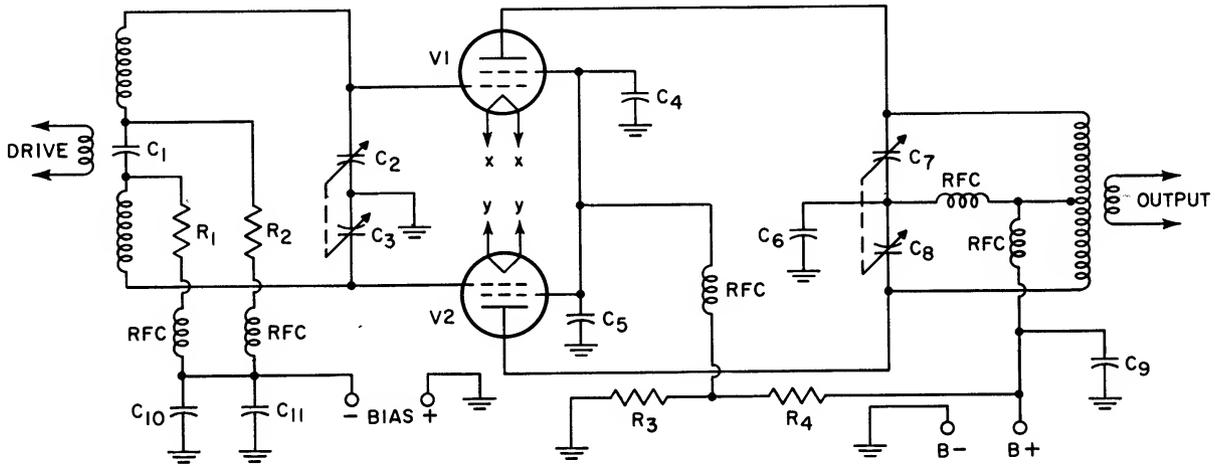

Figure 3. A transmitter final amplifier circuit.
While the transmitter circuit shown in Figure 3 may differ considerably in design from those found in many ham rigs, the measurement techniques and precautions described for it apply to all transmitter amplifiers. In all high-power equipment, checking and adjustment of ac filament voltages is especially important to tube life and performance. Grid-bias voltages are equally important because they have a direct effect upon the screen and plate dissipation of the tube under key-up conditions. The value of the grid-bias voltage also affects drive requirements and sets the operating level (class of operation) of the amplifier. In tetrodes, screen voltages should be carefully adjusted to insure that screen dissipation is kept within proper limits under both key-up and key-down conditions. Plate voltages, as well as plate current, should be determined exactly when the operating level borders on the legal input-power limit or the maximum permissible ratings for the tube type.
In setting up an rf amplifier for the first time, use the VoltOhmyst to make precautionary measurements before applying plate and screen voltages. When checking out a high-power amplifier, such as that shown in Figure 3, use the following procedure: (1) Apply filament and grid-bias voltages. Remove excitation. (2) Set up the VoltOhmyst for ac-voltage measurements. Check the filament voltage of each tube directly at the filament pins (xx) and (yy) by connecting the ground cable to one pin and the ac probe to the other pin at the same tube socket. Filament voltage should be within at least $\pm 5\%$ of the recommended voltage for the tube type. (3) If the voltage measured at either filament is off by more than $\pm 5\%$, measure the line voltage on the primary side of the filament transformers. If line voltage is correct, IR drop in the filament wiring may be responsible. In this event, replace the wiring with heavier conductors. It is also possible that one of the filament transformers may need replacement because of improper turns ratio. (4) Check the fixed grid bias by setting up the VoltOhmyst for "—DC" voltage measurements and read the voltage directly at the grid pins of both tubes. This is a wise precaution, especially in equipment which is not protected against grid-bias failure. If proper voltage is measured for both tubes, the wiring is correct and the fixed-bias supply is functioning properly.
The separate bias-supply leads feeding the two halves of the grid circuit in Figure 3 are provided as a means of checking the balance of the push-pull circuit. Do not attempt to measure total grid voltage at the grid pins when excitation is applied because of the high rf grid voltage. (5) Adjust the grid-tank tuning and the coupling to obtain the required amount of grid current in both grid-circuit legs. Remove excitation. (6) The amplifier can now be checked for plate-current cutoff or, if it is to be operated class AB or B, for the required amount of static plate current. With fixed bias applied and excitation removed, apply plate and screen voltages. Note the plate current flow, if any, and adjust the bias voltage from the supply to give the required cutoff or static current. Remove the high voltage. (7) The plate and screen circuits can now be checked with excitation applied and with the amplifier under dummy load. In circuits which employ high-perveance tubes, take care to prevent excessive plate and screen current flow while tuning. Unless dial settings of plate-tank resonant points are first established by